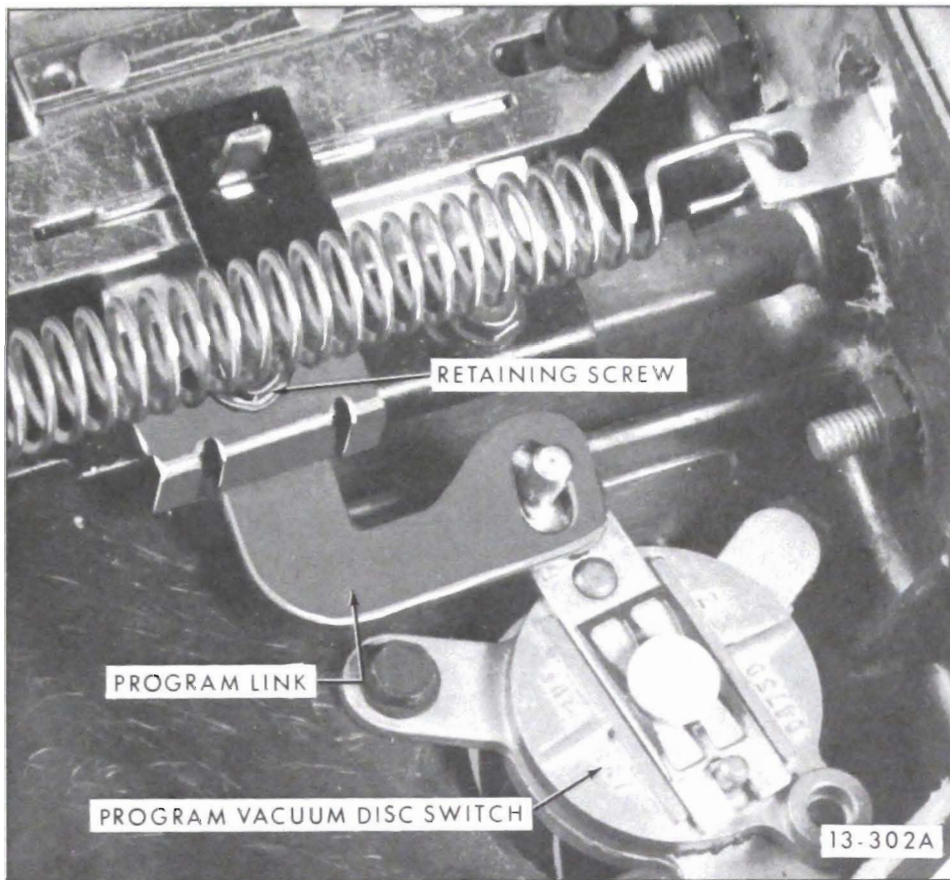
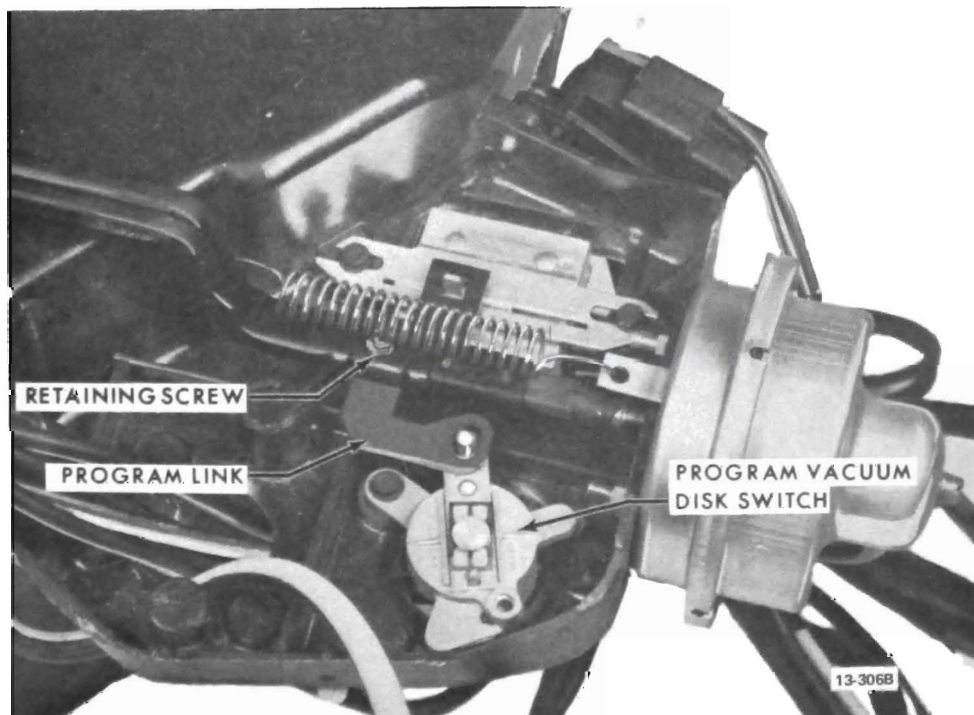

Figure 13-208 45-46-48000 Series
Figure 13-209 49000 Series Adjust
3. Start engine so that vacuum is applied to power (manifold) side of PVA. With system in maximum A/C, such as obtained in paragraph 13-102, step 9, slowly reduce vacuum to pilot side of PVA to 3.0". Adjust program link on temperature door linkage, to pin on program vacuum disc switch, for A/C to heater mode shift. 45-46-48000 Series see Figure 13-208. 49000 Series see Figure 13-209.